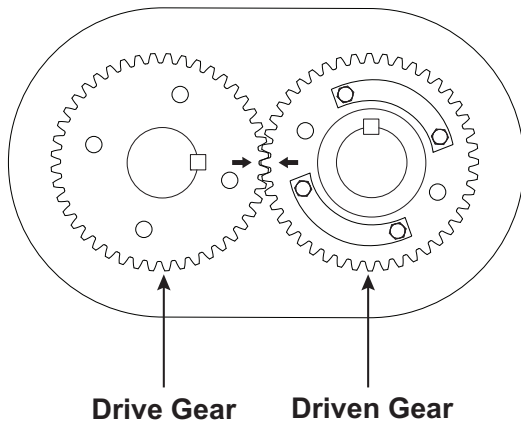
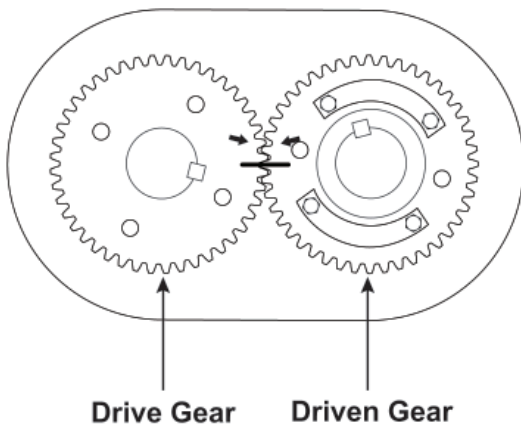

Figure 8-1 – Timing marks matched
Figure 8-2 – Timing marks advanced 3 teeth (reference marks aligned)
9. Position the timing gears so both timing marks are matched. **See Figure 8-1.** Rotate the drive gear clockwise approximately three teeth, and mark a matching reference line on each gear (as shown in **Figure 8-2**). This gear position is necessary so the rotors will clear and not jam. Using a gear puller with a live center or a gear puller with a centering adapter large enough so it will not jam into the threaded hole, pull the driven gear while keeping the matched reference line marks aligned. Use a slight rocking motion to make sure the rotors have not jammed. Should jamming occur, release pressure and tap the gear back on until it rotates freely. Pull the mating gear.